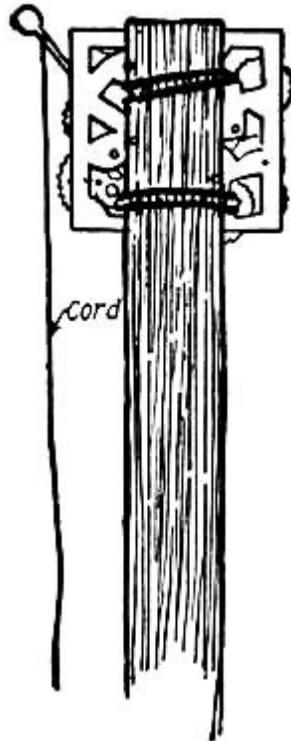

FIG. 305. The Clockwork Tick-tack.
**A Clockwork Tick-tack**, such as is illustrated in Fig. 305, is another good idea, and one that can be carried out with a few minutes' work. Remove the works from an old alarm clock, and fasten them with wire or cord to the end of a pole, as shown. Attach a cord to the striker, and make it long enough to reach to the other end of the pole. Make a loop in the end of the cord, and drive a nail into the pole over which to loop the cord to keep the striker in check. This tick-tack is worked by placing the end of the pole close to the window-glass, with the striker toward the glass, and slipping the cord off its nail. The striker is controlled entirely by the cord.